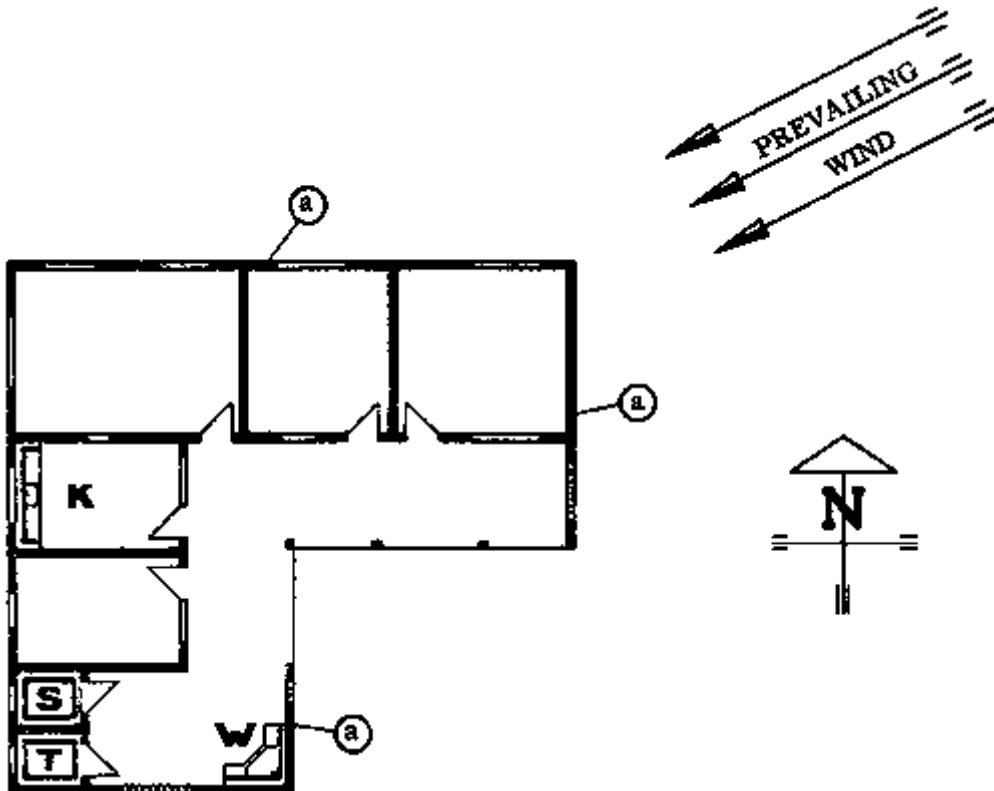

Fig. 1
- All external walls should be covered with render. The sides of the building that face the heaviest weather (in north-western Ghana, this comes from the north-east) should be covered with a somewhat richer mix (Fig. 1, a, next page).
- All so-called wet rooms such as bathrooms, toilets, kitchens, and washing areas should be plastered and painted. (Fig. 1, next page: K = kitchen; S = shower; and W = washing area.)